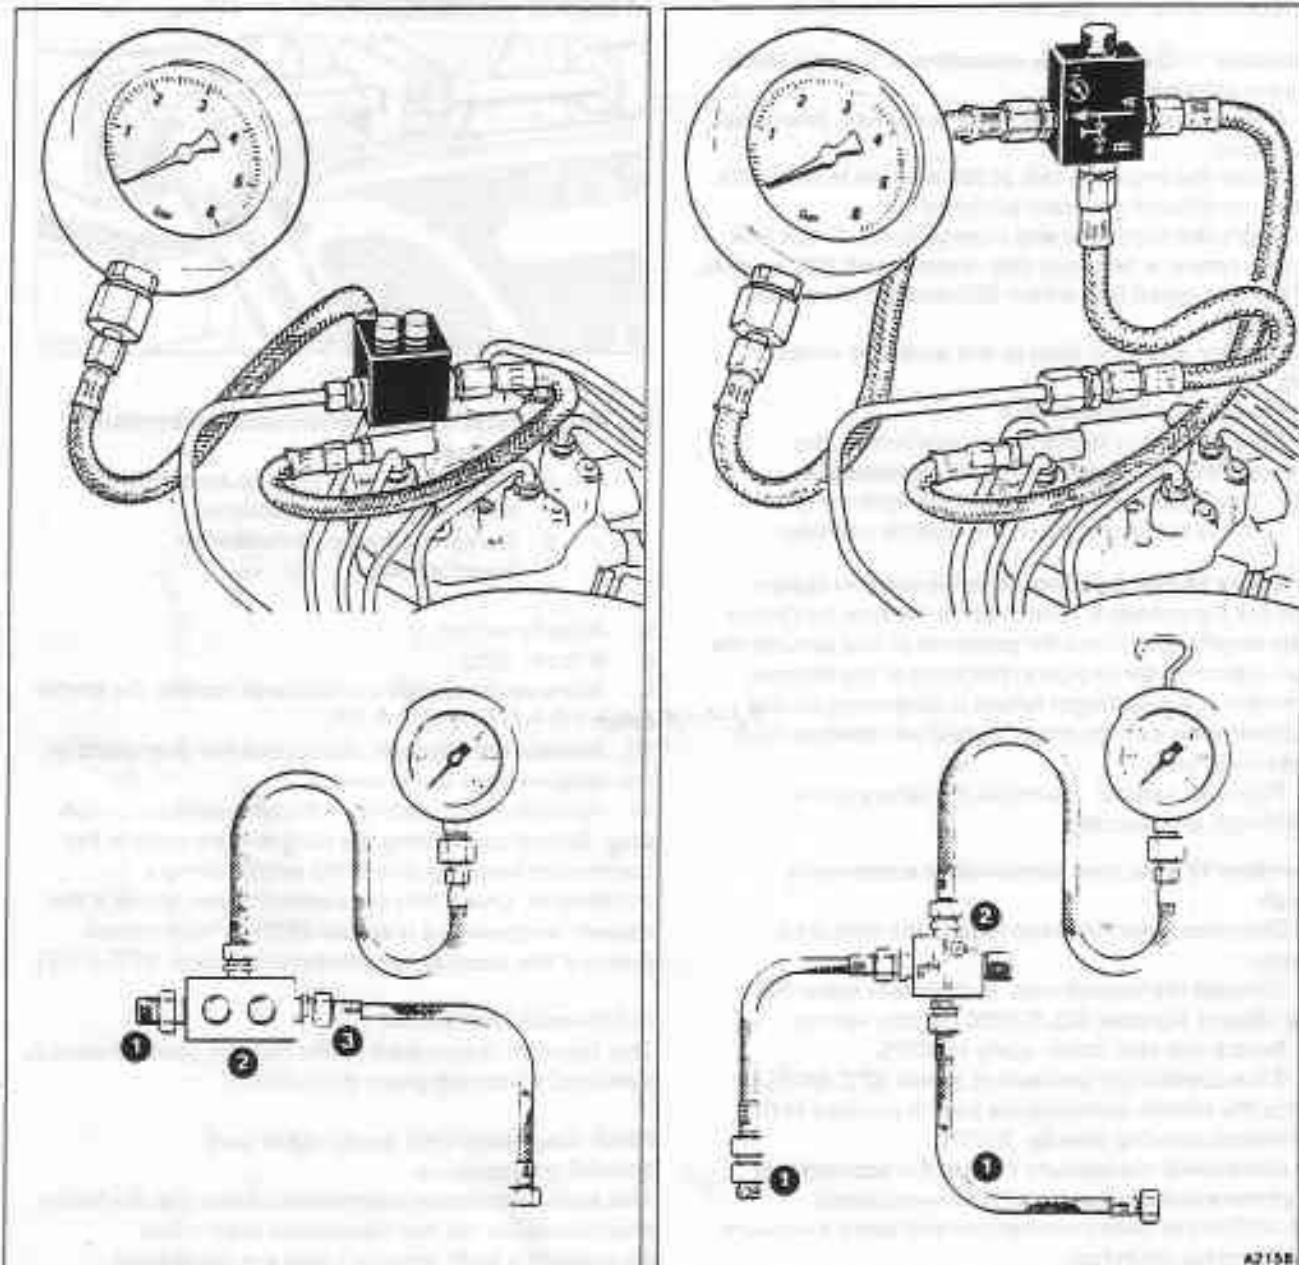

Fig. B2-38 Pressure tester valve block assembly
The original valve block has two valve screws and the later type has only one. Either valve block can be used to carry out the necessary workshop tests. See figure B2-38 for the valve block assembly details.
The pressure tester and associated parts are fitted into the control pressure line (see fig. B2-38); the line connecting the fuel distributor to the warm-up regulator. With the test equipment suitably connected
4. Loosely assemble the test equipment and then install it onto the engine as shown in figure B2-38. Ensure that all pipe nuts and unions are tight.